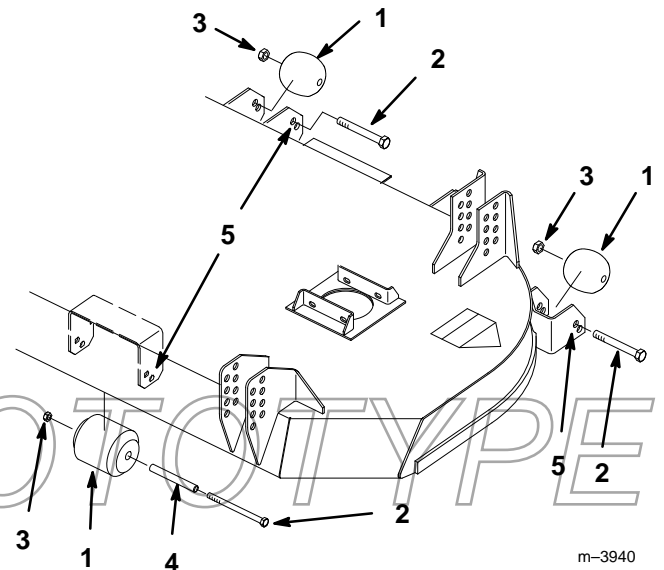

Figure 13
2. Remove the locknut and bolt to change the hole location (Fig. 13).
3. Select the proper hole position for the height-of-cut to be used (Fig. 13).
4. Insert the 1/2-13 x 4" (101 mm) bolt through the roller and secure it with the 1/2-13 locknut (Fig. 13).